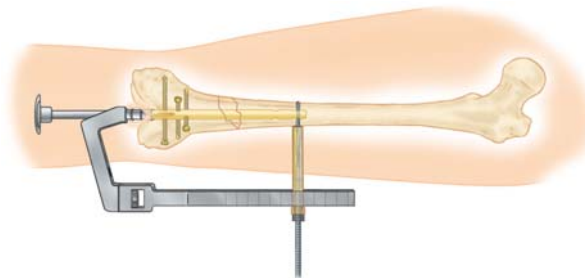
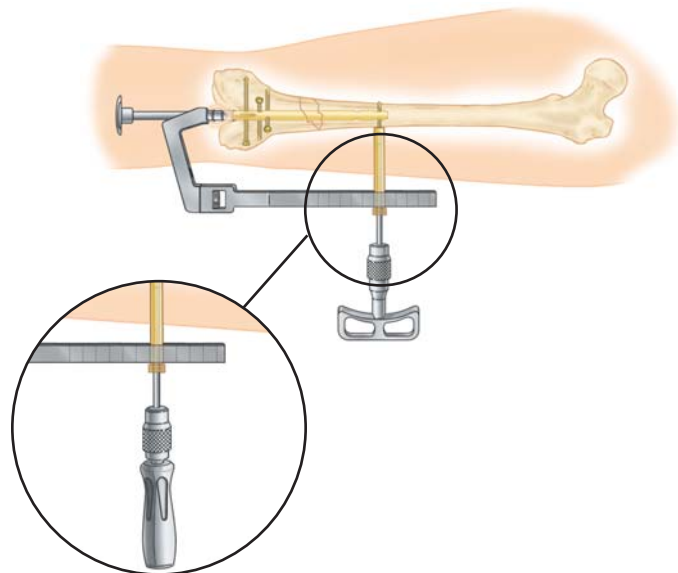

Figure 34
Figure 35
A. Predrill Technique — Place the Silver Inner Drill Sleeve (7163-1156) into the Gold Outer Drill Sleeve (7163-1152). Insert the stacked sleeves through the appropriate hole on the Supracondylar Guide (7163-1158). A stab incision is made and the sleeves pushed to bone. Attach the Long Pilot Drill (71631110) to power using the Mini-Connector (7163-1186). Insert the drill through both cortices. The length measurements are taken from the calibrations off the drill in relation to the end of the drill sleeves (*Figure 34*). The appropriate length 5.0 mm screw (GOLD) is selected and attached to the Screwdriver. Remove the Long Pilot Drill and Silver Inner Drill Sleeve. Attach Screwdriver to power or use manual T-Handle (7163-1172) or Straight Screwdriver Handle (7163-1163) and place screws in bone (*Figure 35*).